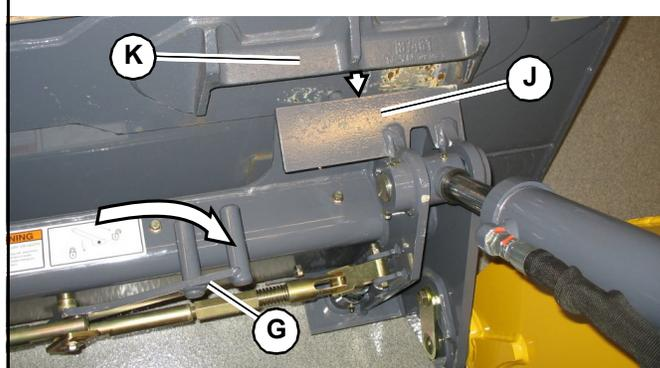

Fig. 104 – Attachment Hitch – Unlocked
3. Place the attachment lock into the unlocked position (Fig. 104):
- Power-A-Tach® system hitch – Press the bottom of hitch lock switch (I) until safety flags (H) have moved all the way in.
- Manual attachment hitch – Perform the “Mandatory Safety Shutdown Procedure” on page 20 and move hitch lock lever all the way to the right (G).